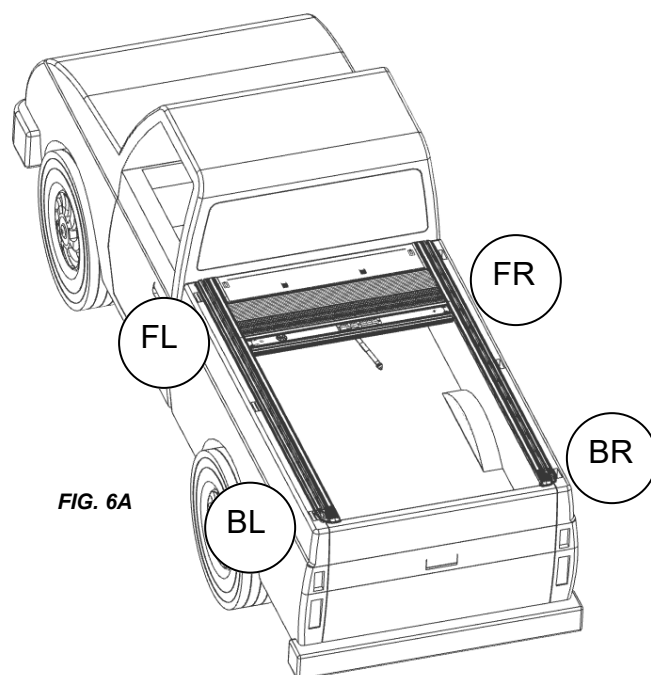

FIG. 6A
Slide the clamp extensions on the tailgate and cab end of each rail as pictured in Figure 6A-6F. Ensure that your tailgate end and cab end extensions are in the correct orientation and have the correct stick on shims. Each clamp extension is labeled for front left (FL), front right (FR), back left (BL), and back right (BR). The extensions go on the corners shown in figure 6A.